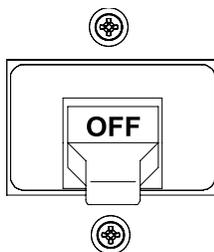

Figure 15. Main Circuit Breaker (OFF)
3. **NEVER** start the engine with the main circuit breaker in the **ON** position. Always place circuit breaker (Figure 15) in the **OFF** position before starting.